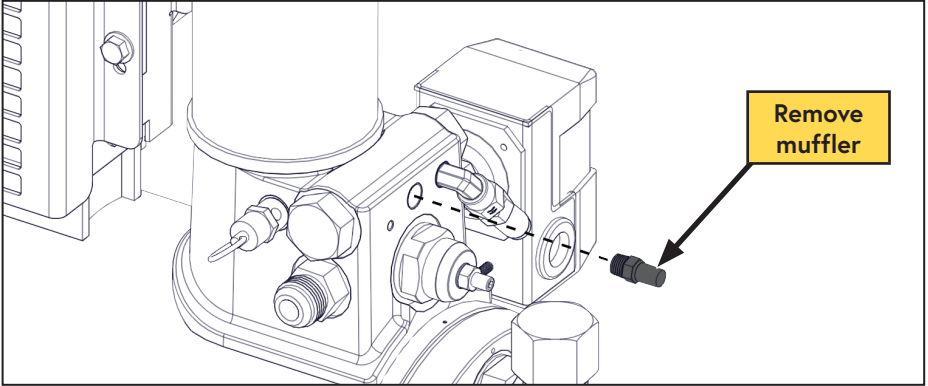

Figure 36 — Remove blowdown muffler
- Remove the blowdown muffler from the side of the WHASP Tank (below the coalescing filter) (Figure 36).